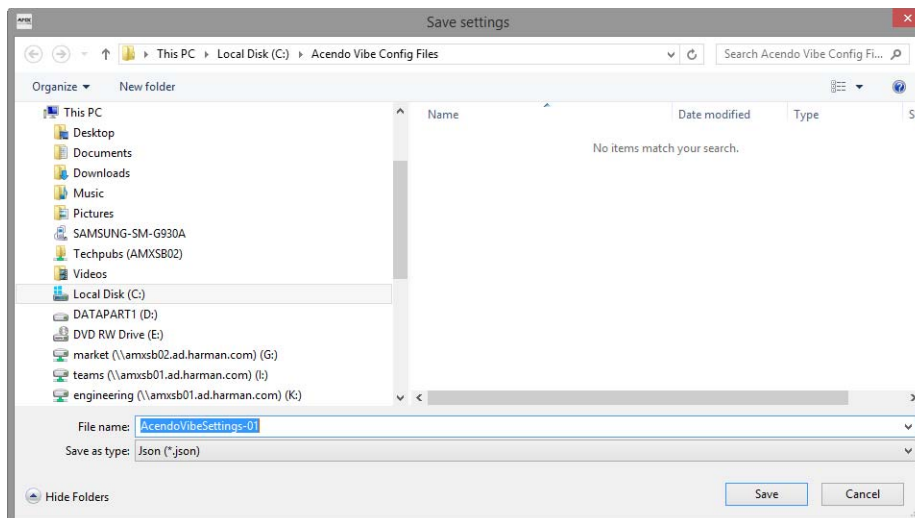

FIG. 42 Save As dialog
2. This selection invokes the *Save settings* dialog (FIG. 42):